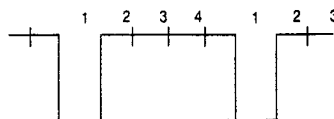

Figure 1
3. Adjust L503 and VR513 in order to make the waveform flat on the screen (Figure 1).